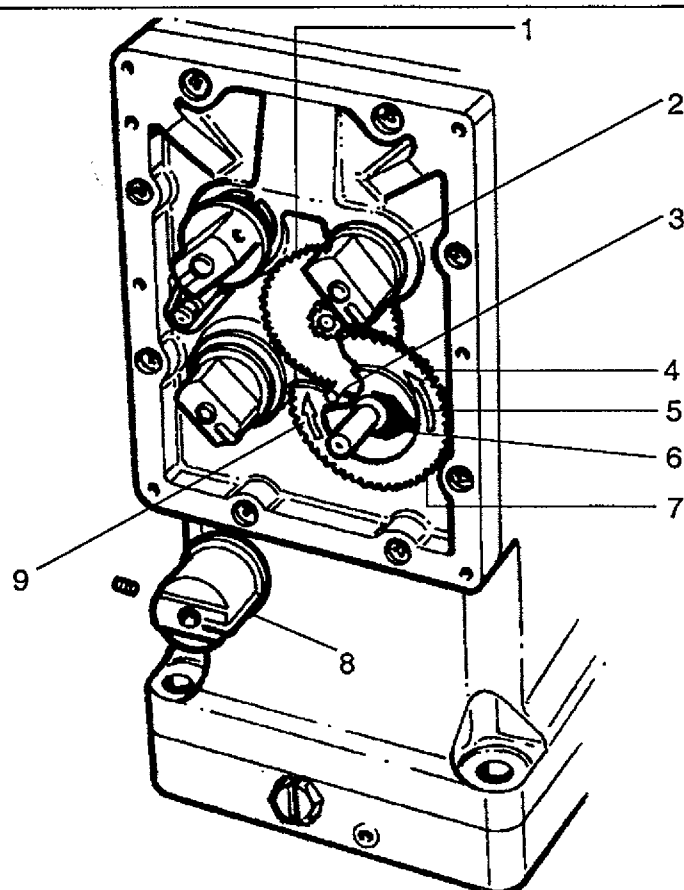

Fig. 43AA
If the friction drive slips before reaching the required high speed setting, mark the intermediate (278) and the synchroniser (269) (speed setting) indicator gears, disengage the synchroniser (speed setting) gear (269), index it one tooth ccw to allow a higher speed setting and engage the gear again (one tooth gives approximately 28 r/min). (see Fig. 43AA).
Engage again the synchroniser indicator gear (269) with the high-speed stop pin, engaging the intermediate gear (278) to prevent further increase in speed. The high-speed stop pin is the pin closest to the gear centre. Fig. 43AA.
(Fig. 43AA)